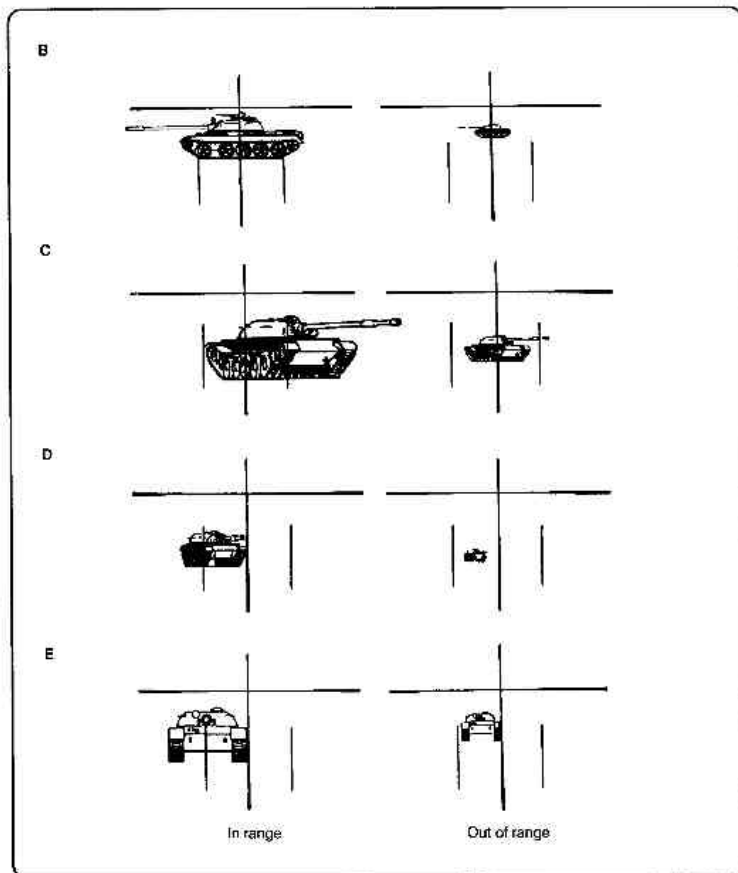

Figure 3-18. Range determination (continued).
- a. Flanking Targets (Full Stadia). Adjust the sight picture by moving the launcher to center the target between the stadia lines. (See B, Figure 3-18.)